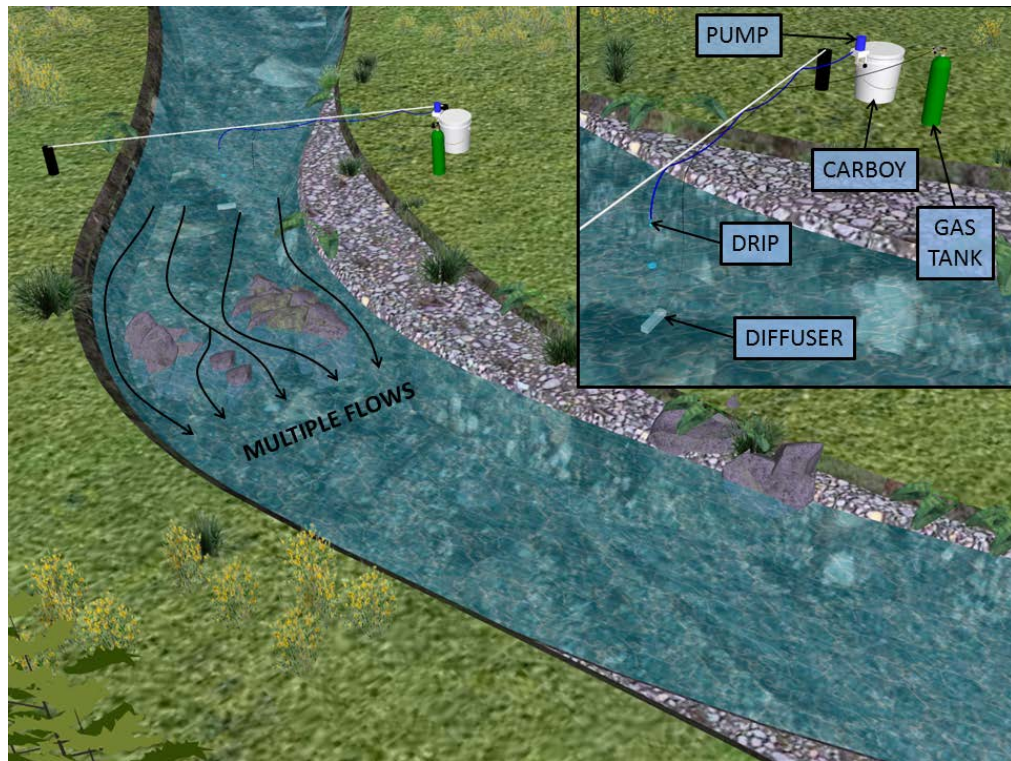

Figure 4. Field setup of the injection site with conservative tracer and inert gas.
- b. Set up the bucket/carboy, tubing, battery, and pump on a level surface at the injection site (Figure 4). If a level surface on the bank is not adequate, place pump set-up on a bridge or plank laid across the stream.
- h. Inject (i.e., drip) the salt solution into the stream thalweg. The end of the tubing should be placed a few inches above the water surface. **DO NOT** put the tubing in the stream because it will change the pump rate. Attach the tubing to something stable, such as a piece of rebar pounded into the streambed or a tree above the stream. Make sure to **INJECT INTO THE THALWEG** so the solution will mix as quickly as possible with the stream water (Figure 4).
- d. Make sure diffuser remains underwater and is at the same location in the stream as the conservative tracer injection (Figure 4).